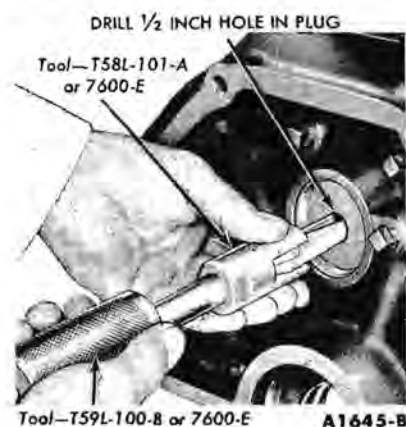
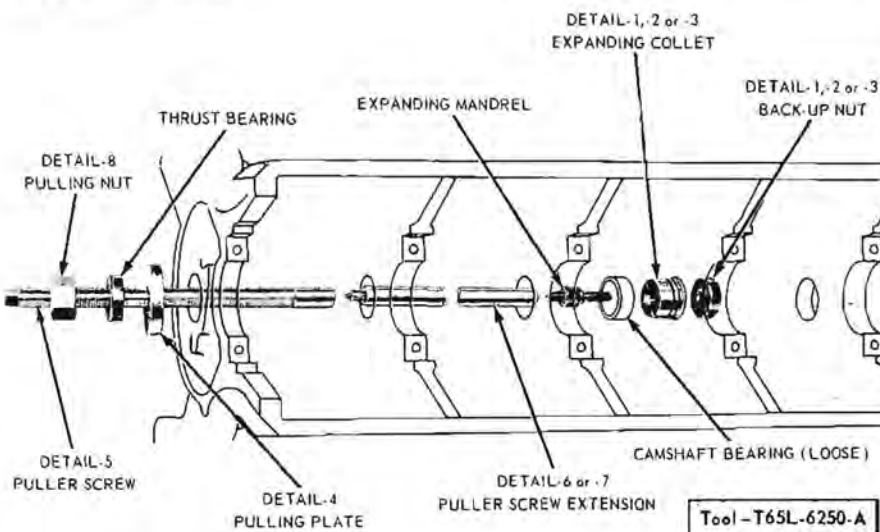

FIG. 60—Camshaft Rear Bearing Bore Plug Removal
FIG. 61—Typical Camshaft Bearing Replacement
2. Remove the camshaft rear bearing bore plug (Fig. 60). Remove the camshaft bearings (Fig. 61).
6. Position the new bearings at the bearing bores, and press them in place with the tool shown in Fig. 61. Be sure to center the pulling plate and puller screw to avoid damage to the bearing. **Failure to use the correct expanding collet can cause severe bearing damage.** Align the oil holes in the bearings with the oil holes in the cylinder block when the bearings are installed. **Be sure the front bearing is installed 0.005-0.020 inch below the front face of the cylinder block (Fig. 62).**
29. Remove the camshaft rear bearing bore plug (Fig. 60). Remove the camshaft bearings (Fig. 61).
3. Position the new camshaft bearings at the bearing bores, and press them in place with the tool shown in Fig. 61. Align the oil holes in the cylinder block when the bearings are installed. Be sure the camshaft front bearing is installed 0.005-0.020 inch below the front face of the cylinder block (Fig. 62).